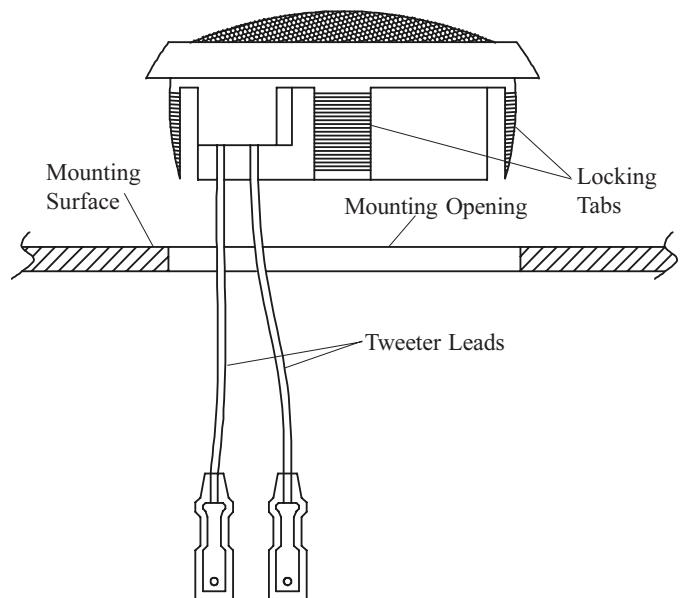

Figure 2
1. Cut a hole into the mounting surface using the supplied template and then insert the Tweeter Leads into the just cut opening. Refer to figure 2.